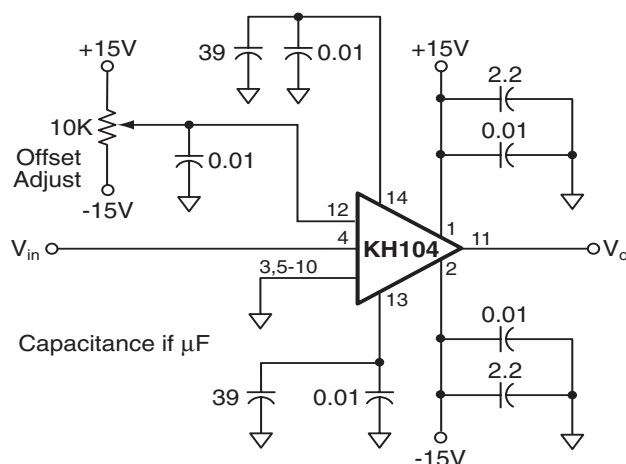

Figure 1: Basic Circuit
DC offset of the KH104 may be adjusted by applying a DC voltage to the amplifier's offset adjust pin (12). The simplest method is shown in Figure 1. Using this method of offset adjust it is possible to vary the output offset by approximately ± 400 mV. This simple adjustment has no effect on the offset drift characteristics of the KH104.